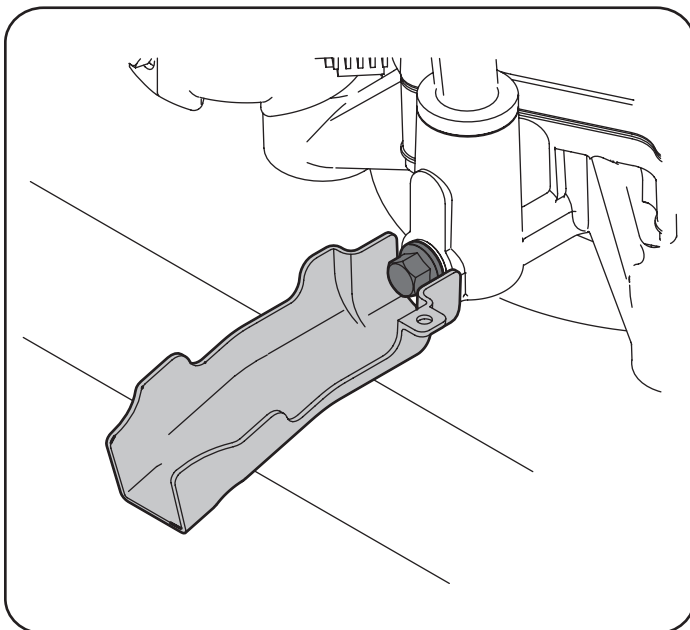

Figure 6
4. Snap the small end of oil drain sleeve onto the oil sump. See Figure 6.